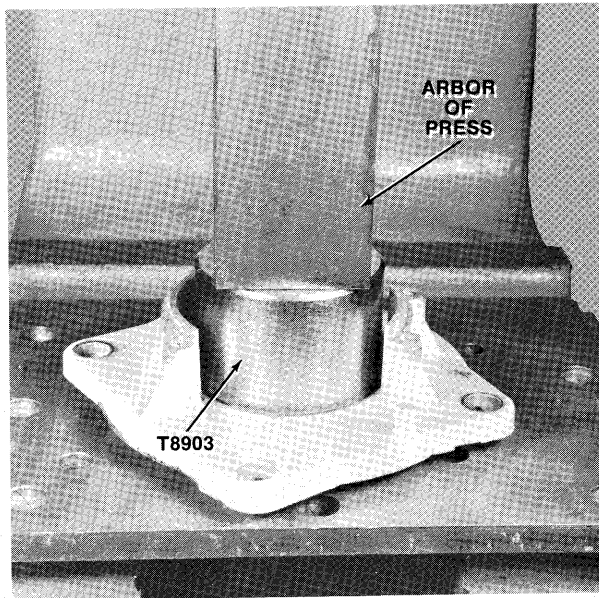

Figure 2—Installing Crankshaft Bearing Seal
- B. Position crankshaft bearing seal on bore of crankshaft bearing cage with major sealing lip with garter spring towards inside of crankcase. Press seal in bore of bearing cage using seal installer (Special Tool T8903) as shown in figure 2.